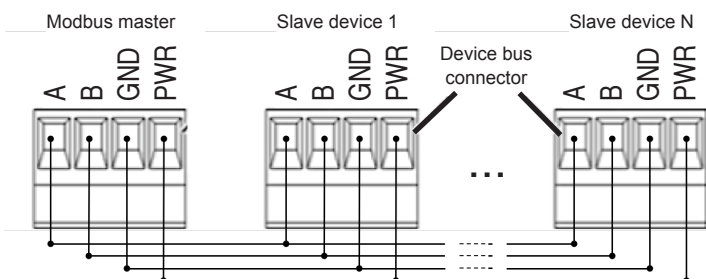

Fig. 2 Wiring the Gateway to device slaves
- ▶ Alternatively, refer to figure 2 for terminal assignments.